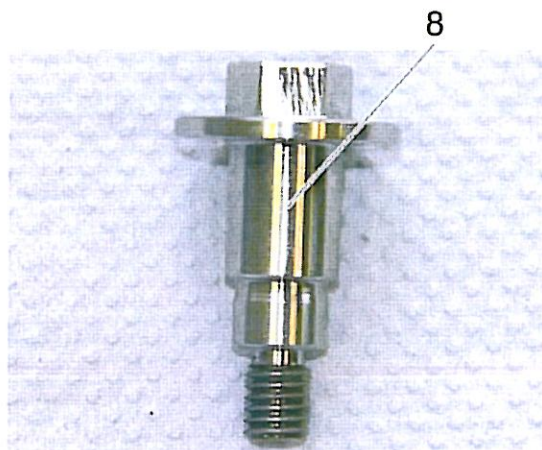

Figure 16
12. Apply Loctite 243 to both screws (item 8). See Figure 16.